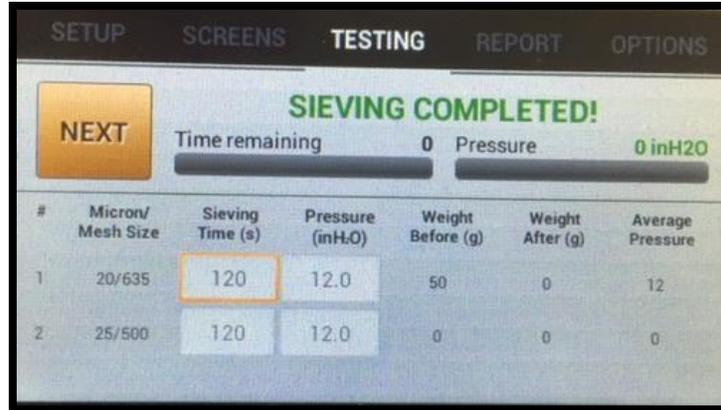

Figure 47
21. Upon completion of the “Time Remaining” the wand will stop rotating, the vacuum will turn off, the balance will tare (re-zero) and the window will display “SIEVING COMPLETED!” (See Figure 47)
26. Once the sieving has been completed the screen will display “SIEVING COMPLETED!” press the **NEXT** button to advance the software and tare the balance. (See Figure 47)